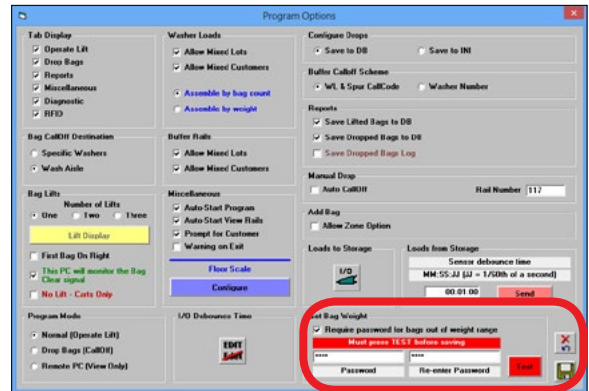

Figure 4. The program options screen. Use the Get Bag Weight section to modify the override password.
3. Locate the “Get Bag Weight” section in the lower right of the *Program Options* screen (see Figure 4).